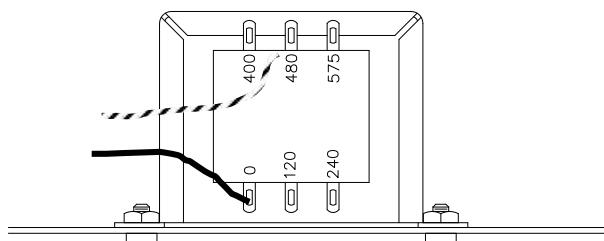

Figure 3.3 T1 Transformer Connections
1. Open the SCR power controller, and locate transformer T1. The primary side of T1 transformer will contain two wires (one black, the other white and black). Refer to Figure 3.3.